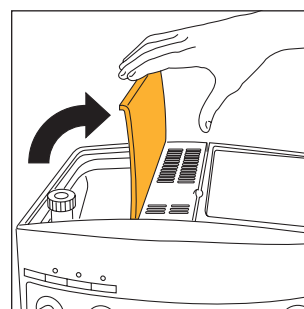

Fig.2
- Open the lid on the coffee bean container (Fig.2).